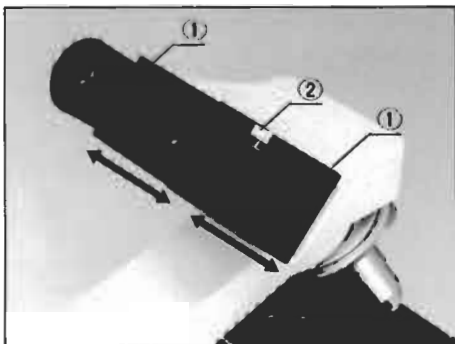

Fig. 12
1) Looking through the binocular tube, move the knurled dovetail slides ① in the directions of the arrows until a perfect binocular vision is obtained. (Fig. 12)
2) If you memorize your interpupillary distance setting on the scale ② provided on the dovetail slide ①, it is convenient to obtain a proper setting next time. (Fig. 12)